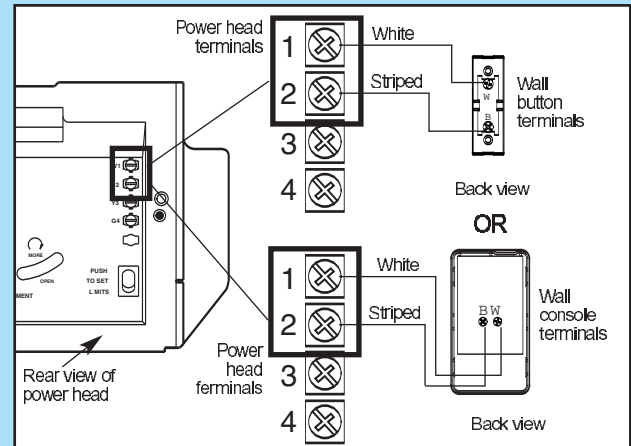

Fig. 4-1a
- Attach wall control (Fig. 4-1a)